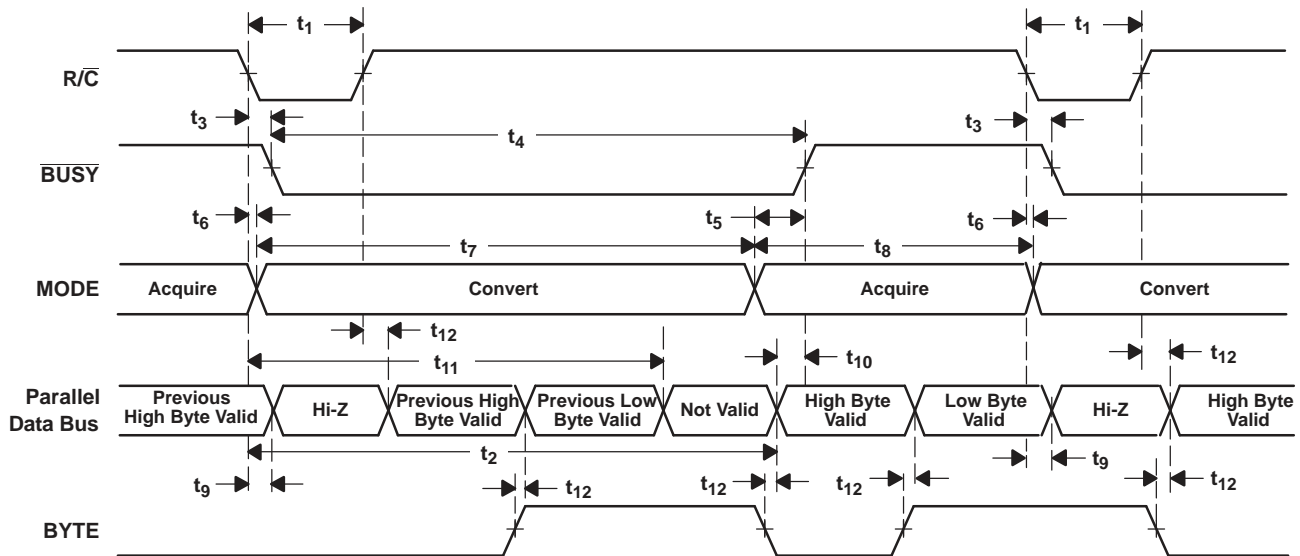
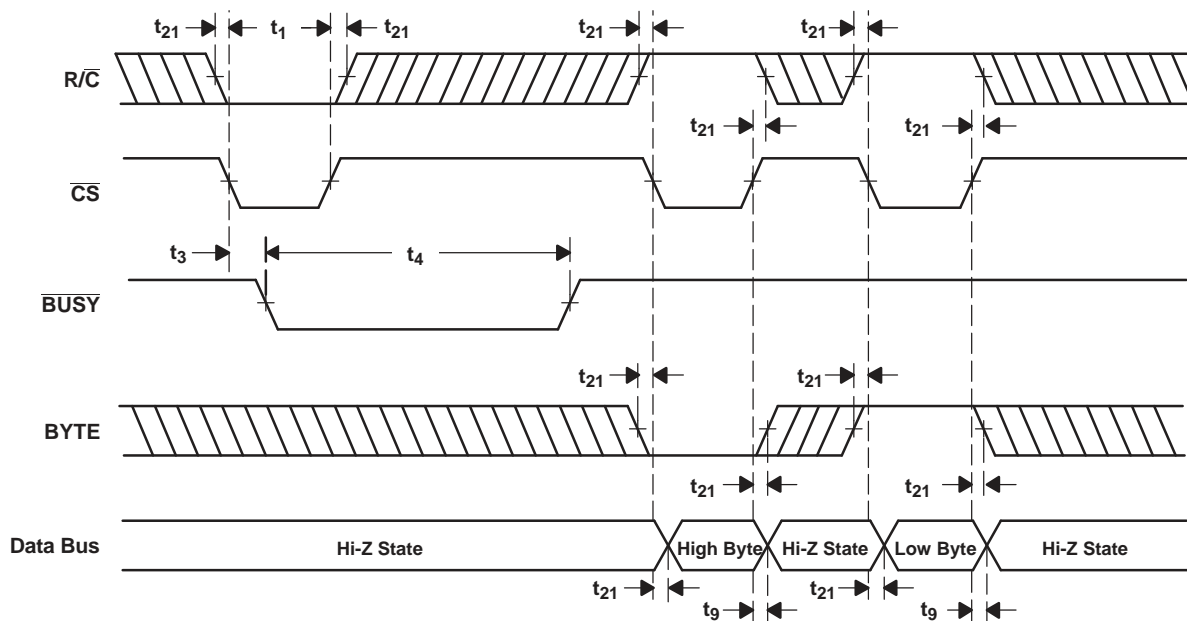

Figure 33. Conversion Timing With Parallel Output ($\overline{\text{CS}}$ and DATACLK Tied Low, $\overline{\text{EXT/INT}}$ Tied High)
Figure 34. \overline{CS} to Control Conversion and Read Timing With Parallel Outputs
The ADS8507 begins tracking the input signal at the end of the conversion. Allowing 25 μs between convert commands assures accurate acquisition of a new signal. Refer to Table 2 and Table 3 for a summary of \overline{CS} , R/\overline{C} , and \overline{BUSY} states, and Figure 33, Figure 34, Figure 35, Figure 36, Figure 37, Figure 38, and Figure 39 for timing diagrams.
(1) See Figure 33 and Figure 34 for constraints on data valid from conversion *N*–1.
After conversion N is completed and the output registers have been updated, $\overline{\text{BUSY}}$ (pin 24) goes high. Valid data from conversion N is available on D7-D0 (pin 9-13 and 15-17). $\overline{\text{BUSY}}$ going high can be used to latch the data. Refer to Table 5 and Figure 33 and Figure 34 for timing specifications.
After conversion N has been initiated, valid data from conversion $N-1$ can be read and is valid up to $12\ \mu\text{s}$ after the start of conversion N . Do not attempt to read data beyond $12\ \mu\text{s}$ after the start of conversion N until \overline{BUSY} (pin 24) goes high; this may result in reading invalid data. Refer to Table 5 and Figure 33 and Figure 34 for timing constraints.